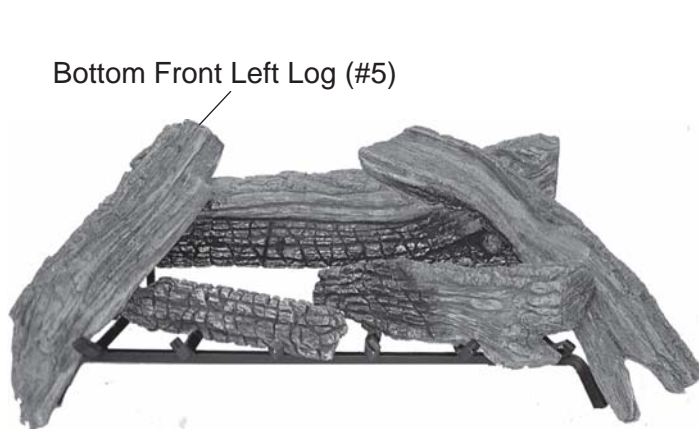

Figure 88 - Installing Bottom Front Left Log (#5)
6. Rest Bottom Left Log #5 on back log #1 and to the outside of the left grate prong. *See Figure 88.*